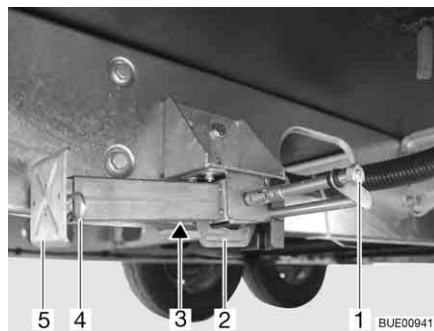

Fig. 27 Steady leg
- Place the socket spanner on the hexagonal nut (Fig. 27,1) and rotate until the steady leg is in a perpendicular downward position.
- If the length of the steady leg can be adjusted, remove the splint (Fig. 27,4) out of the support foot extension (Fig. 27,5).
- Place the socket spanner on the hexagon nut (Fig. 27,1) and rotate until the steady leg is clear of the ground.
- Push in the support foot extension (Fig. 27,5) and insert the splint (Fig. 27,4) in the drilled hole in the support foot extension.
- Rotate the hexagonal nut (Fig. 27,1) until the steady leg has swung upwards and the guide (Fig. 27,2) has reached the very end of the slot (Fig. 27,3).